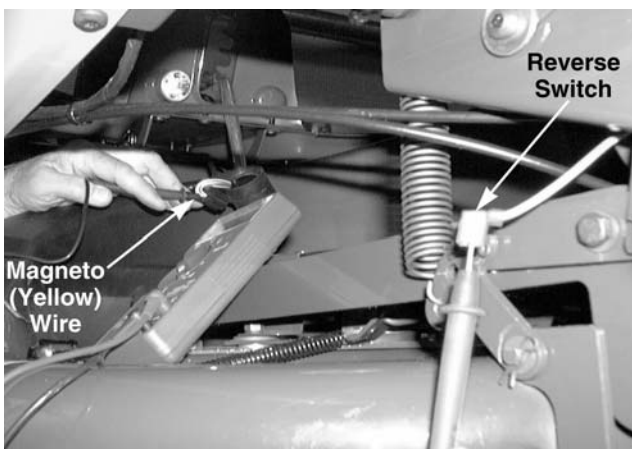

**Figure 8-88.**
20. Locate the reverse switch and disconnect the yellow/black wire and connector. See Figure 8-88.